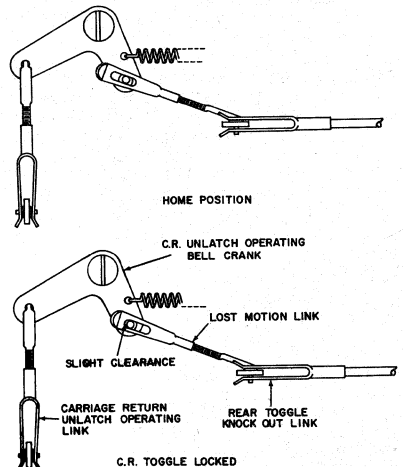

Figure 47
23. With the carriage return toggle unlocked, and the tab unlatched, cycle the CR & Tab unlatch cam to the high point with the power off. Hook up and adjust the lost motion link so that most of the lost motion is taken up, but the link is still free (Figure 47, CR toggle locked). This is the maximum movement of the carriage return unlatch operating bell crank without the lost motion link causing choke off, and this method will give positive unlocking of the carriage return clutch toggle, with the other carriage return adjustments properly made.